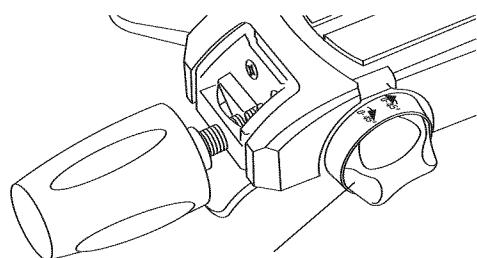

Figure 31.
3. Grasp the front carry handle with the left hand and tilt saw head slightly to the left while rotating the spring-loaded bevel range selector knob with the right hand so the symbol “45-0°” lines up with the arrow on the table (Figure 31). The saw assembly may now be tilted to a right bevel angle up to the 45° stop.
3. Grasp the front carry handle with the left hand and tilt saw head slightly to the left while rotating the spring-loaded bevel range selector knob with the right hand so the symbol “47-47°” lines up with the arrow on the table (Figure 31). The saw assembly may now be tilted to any angle from 47° left to 47°right.